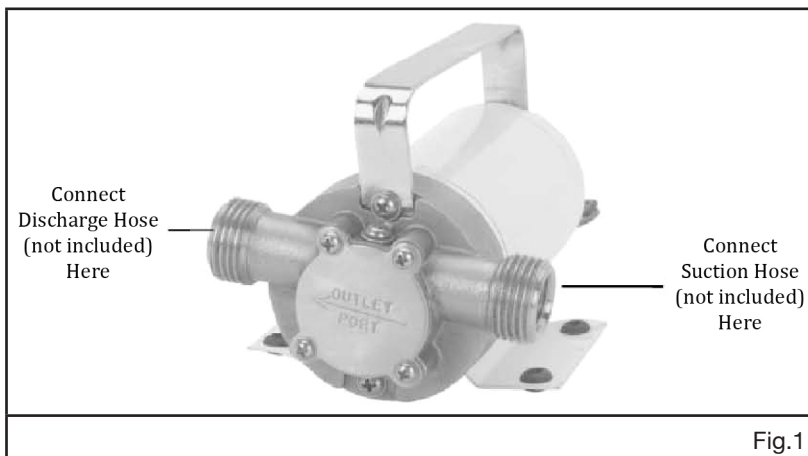

Fig.1
1. The inlet and outlet ports on the pump are both dual threaded with an inside diameter of 3/8 in. NPT and an outside diameter of 3/4 in. This allows for more versatility in selecting a suction hose and discharge hose (not included) with the proper threaded male or female connector. See figure 1.
2. If you are connecting a suction hose having a threaded male connector, wrap about 4 in. of pipe seal tape (not included) around the threads of the male connector. Then firmly screw the male connector into the threaded female connector of the utility pump. Repeat this process for the discharge hose having a threaded male connector. See figure 1.
3. If you are connecting a suction hose having a threaded female connector, wrap about 4 in. of pipe seal tape (not included) around the threads of the male connector of the utility pump. Then, firmly screw the female connector of the suction hose onto the threaded male connector of the utility pump. Repeat this process for the discharge hose having a threaded female connector. See figure 1.